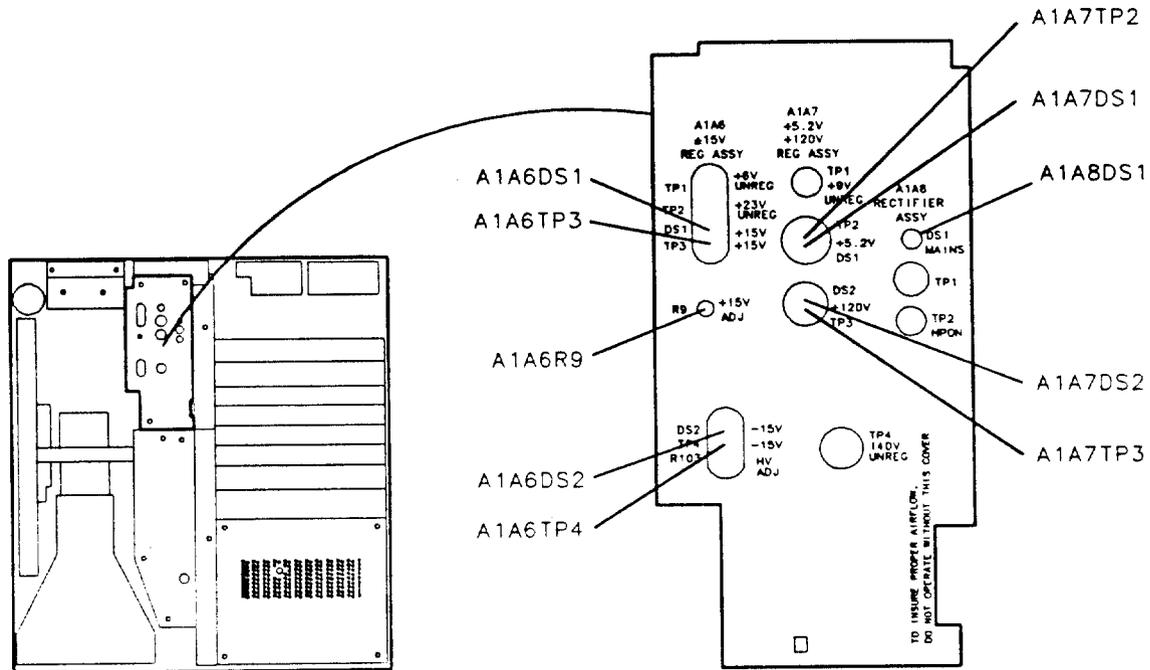

Figure 2. Location of IF-Display Section Low-Voltage Adjustments
2. Set the LINE switch to ON and press **2--22 GHz**. Mains indicator A1A8DS1 (red LED) should be lit. See Figure 2 for the location of A1A8DS1.